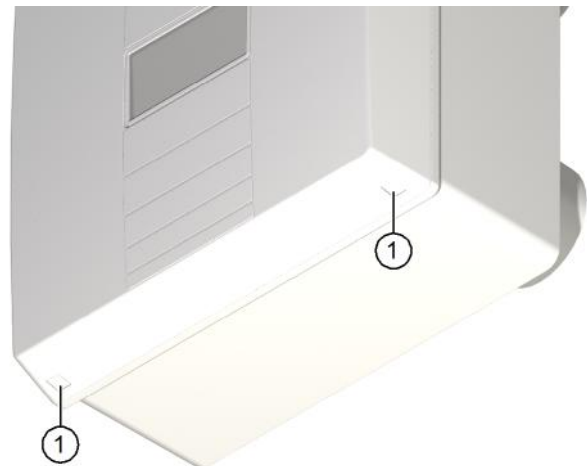

Fig. 17: Remove cover from the ventilation unit
- ▶ Using both thumbs, press the two latches (item 1 in Fig. 17) on the bottom of the ventilation unit. The cover will come away.